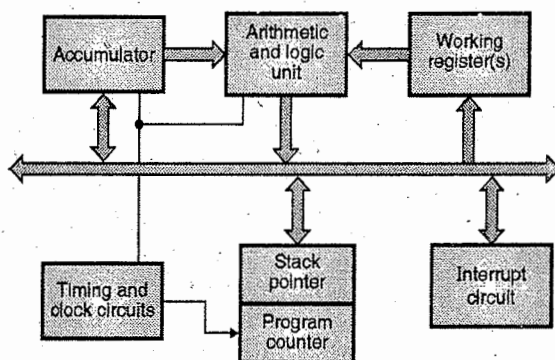

Fig. 1.1.1 : General architecture of a microprocessor
- It consists of an ALU, accumulator, working registers, program counter, stack pointer, clock and interrupt circuits. Fig. 1.1.1 shows general architecture of a microprocessor.